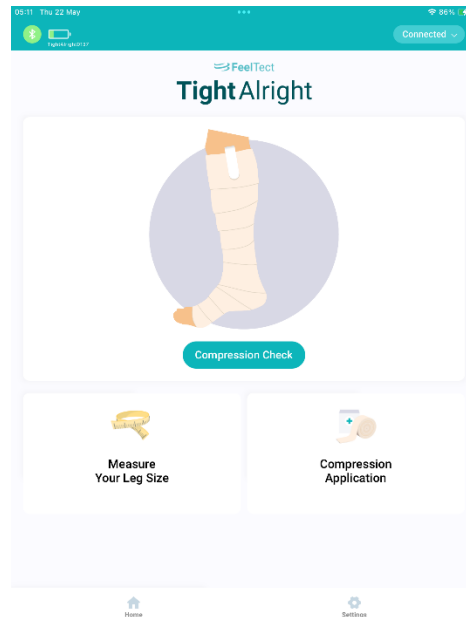

Figure 8. Mobile App “Home” screen.
- The app's **Home** page shows three options: **Compression Check**, **Compression Application**, and **Measure Your Leg Size** (Figure 8).